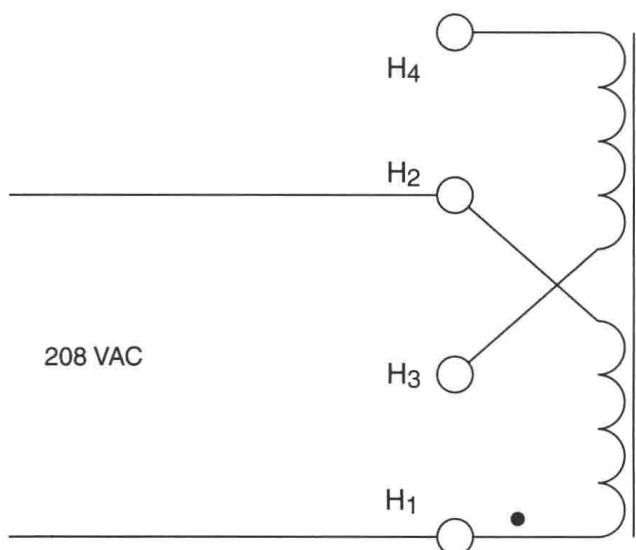
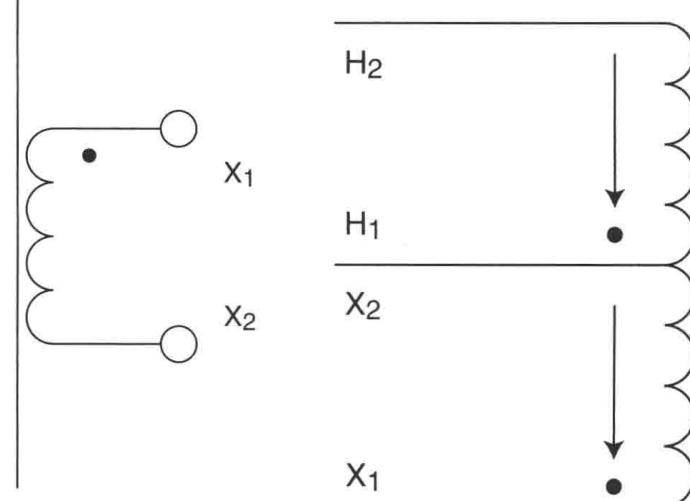

Figure 21-14 Placing polarity dots on the transformer windings.
Figure 21-15 Determining the placement of polarity dots.
22. Figure 21-14 shows the proper location for the placement of polarity dots. Recall that polarity dots are used to indicate which windings of a transformer have the same polarity at the same time. To better understand how the dots are placed, redraw the two transformer windings in a series connection as shown in Figure 21-15. Place a dot beside one of the high-voltage terminals. In this example, a dot has been placed beside the H_1 terminal. Next, draw an arrow pointing to the dot. To place the second dot, draw an arrow in the same direction as the first arrow. This arrow should point to the dot that is to be placed beside the secondary terminal. Since terminal X_2 is connected to H_1 , the arrow must point to terminal X_1 .